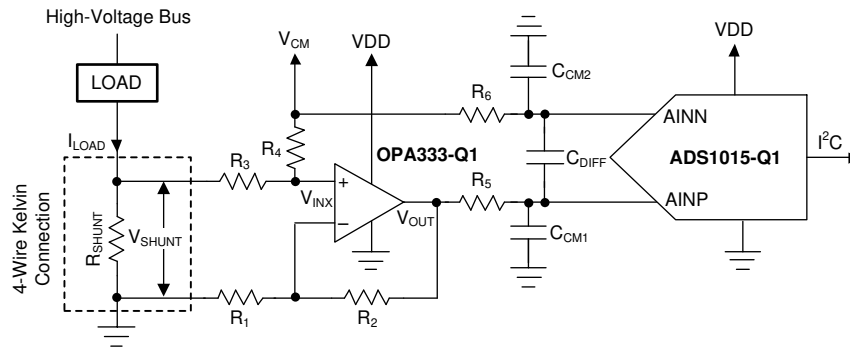

Figure 8-6. Low-Side Current Shunt Monitoring
Shunt-based, current-measurement solutions are widely used to monitor load currents. Low-side, current-shunt measurements are independent of the bus voltage because the shunt common-mode voltage is near ground. Figure 8-6 shows an example circuit for a bidirectional, low-side, current-shunt measurement system. The load current is determined by measuring the voltage across the shunt resistor that is amplified and level-shifted by a low-drift operational amplifier, OPA333-Q1. The OPA333-Q1 output voltage is digitized with ADS1015-Q1 and sent to the microcontroller using the I²C interface. This circuit is capable of measuring bidirectional currents flowing through the shunt resistor with great accuracy and precision.
1. To level-shift the ground-referenced signal to allow bidirectional current measurements while running off a unipolar supply. The voltage across the shunt resistor, V_{SHUNT} , is level-shifted by a common-mode voltage, V_{CM} , as shown in Figure 8-6. The level-shifted voltage, V_{INX} , at the noninverting input is given by Equation 3.
A shunt resistor (R_{SHUNT}) is an accurate resistance inserted in series with the load as described in Figure 8-6. If the absolute voltage drop across the shunt, $|V_{SHUNT}|$, is a larger percentage of the bus voltage, the voltage drop can reduce the overall efficiency and system performance. If $|V_{SHUNT}|$ is too low, measuring the small voltage drop requires careful design attention and proper selection of the ADC, operation amplifier, and precision resistors. Make sure that the absolute voltage at the shunt terminals does not result in violation of the input common-mode voltage range requirements of the operational amplifier. The power dissipation on the shunt resistor increases the temperature because of the current flowing through the resistor. To minimize the measurement errors resulting from variation in temperature, select a low-drift shunt resistor. To minimize the measurement gain error, select a shunt resistor with a low tolerance value. To remove the errors caused by stray ground resistance, use a four-wire Kelvin-connected shunt resistor; see Figure 8-6.